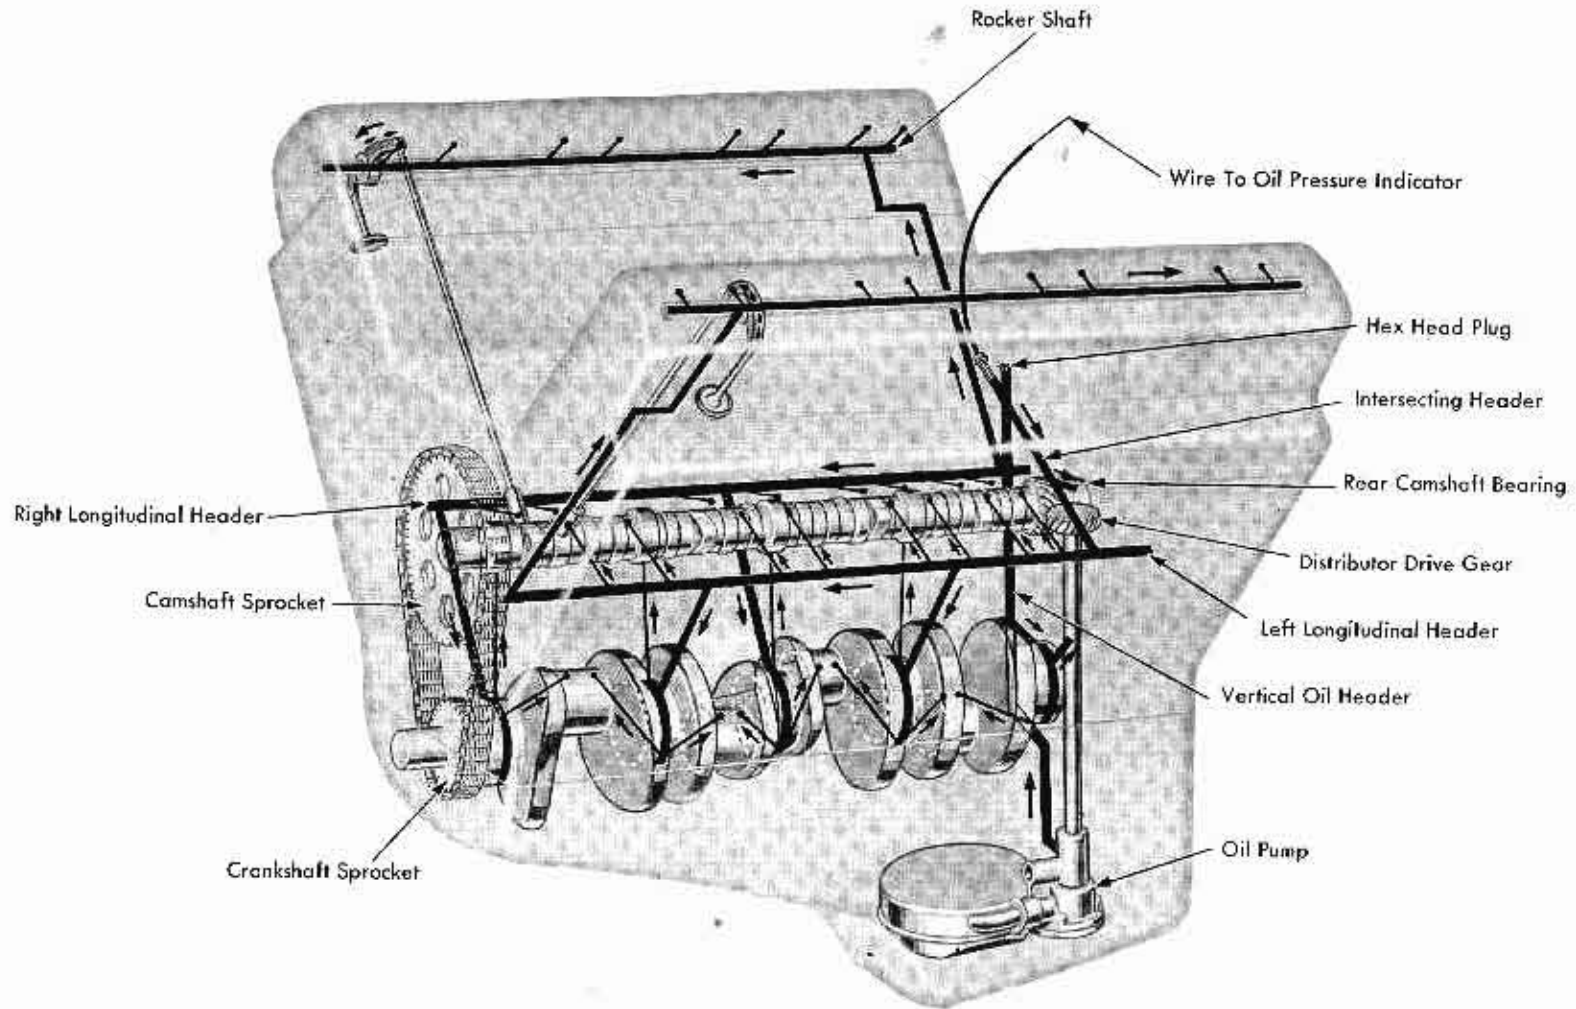

Fig. 10-4 Engine Lubricating System
**ENGINE LUBRICATING SYSTEM** -- The oil pump is mounted on the rear main bearing cap. Oil enters the pump through a screened intake, Fig. 10-4, which floats on the oil thereby drawing off only the cleaner surface oil.
Oil is forced by the pump through the main bearing cap to the vertical oil header which first feeds the rear main bearing, Fig. 10-4. The rear connecting rod journal is lubricated by oil from the rear main bearing through a drilled hole in the crankshaft.